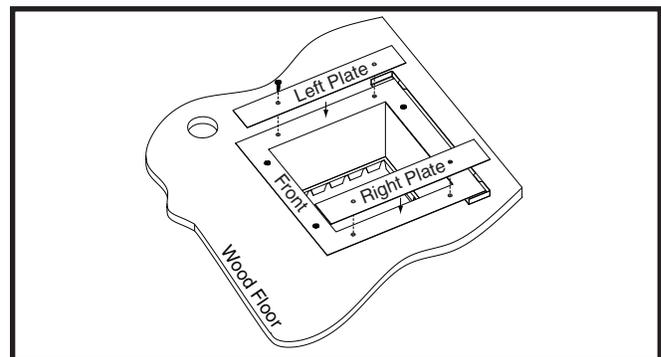

Figure 15. Duct Connector Side Plates
- g. Install 2 plates (Figure 15) on top of the duct connector, one on each side (left and right) of the opening. Align the screw holes in both components.